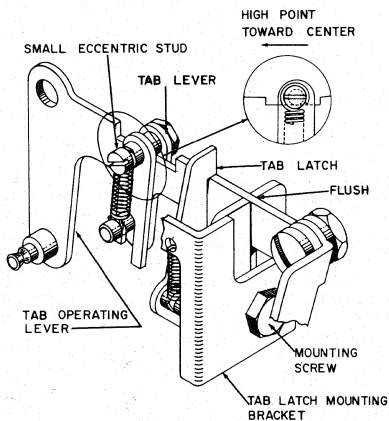

Figure 37
6. Loosen the mounting nut for the small eccentric stud on the left end of the tab lever and set it so the high point is midway in its vertical travel and toward the center of the machine (Figure 37). Tighten the nut without changing the setting. This is a preliminary setting to allow the full range of adjustment when the eccentric is finally set later on.